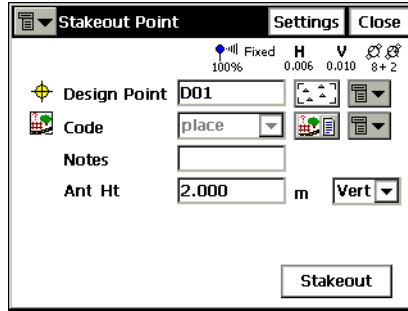

Figure 7-2. Stakeout Point
1. Select the **Stake ▸ Points** menu. On the *Stakeout Point* screen, tap the **Settings** button (Figure 7-2).
- Select the design point from list or map, or insert the name manually. Specify the antenna parameters: the height value and type or the height of the rod, based on whether in GPS+ mode or TS mode. Check if the PTL Point Stakeout is performed. Tap the **Stakeout** button on the *Stakeout Point* screen (Figure 7-2 on page 7-2).